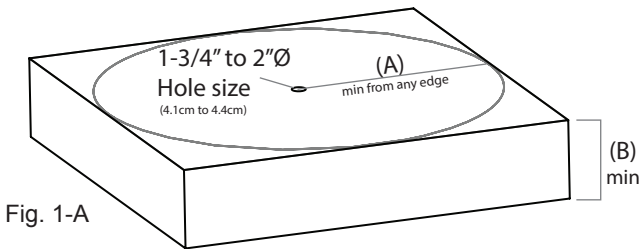

Fig. 1-A
2. Locate or create a through hole in concrete, steel or metal grating capable of withstanding a 5,000-lbf. Static load or meeting OSHA 1926.502 requirements for a safety factor of two. (Reference figure 1-A below for dimentional requirements.)